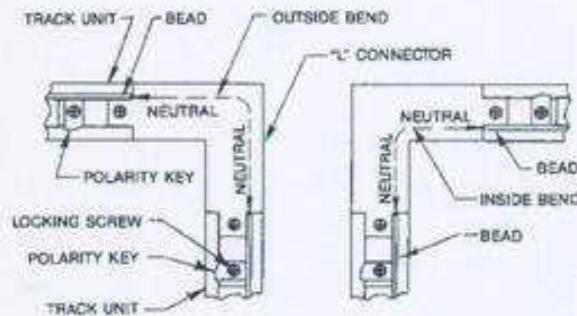
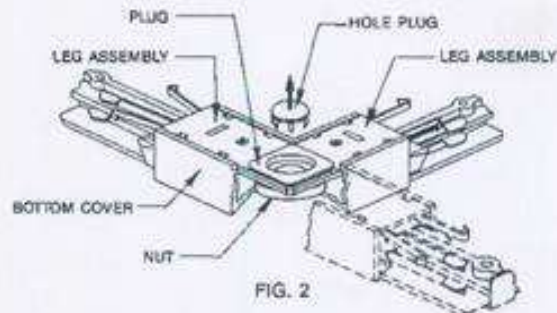

FIG. 1
FIG. 2
1. To maintain polarity the BEAD on the TRACK UNITS must be either on the inside of the bend or on the outside of the bend (Fig. 1).
- c. Secure in new position by tightening the NUT (Fig. 2).
4. Insert "L" CONNECTOR into TRACK UNITS, tighten LOCKING SCREWS (Fig. 1) and fasten the BOTTOM COVER (Fig. 2).
- a. Remove BOTTOM COVER of "L" CONNECTOR and pop out HOLE PLUG (Fig. 2). Follow instructions in CANOPY KIT for power feed to LIVE END.